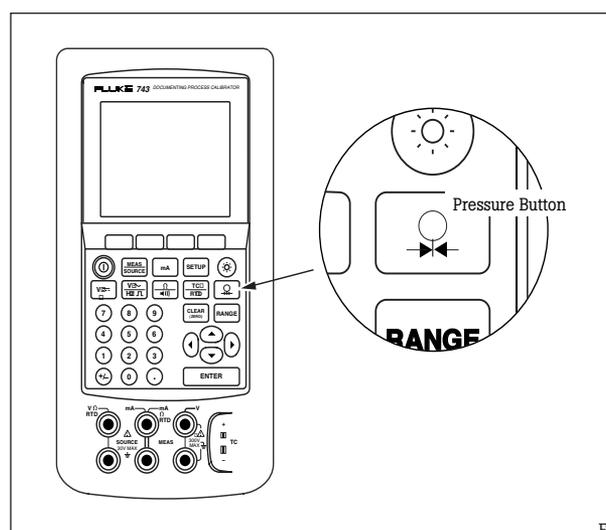

Figure 22
6. Since we wish to source a pressure (using a hand pump) depress the pressure button, (directly above the range button) (Figure 22).